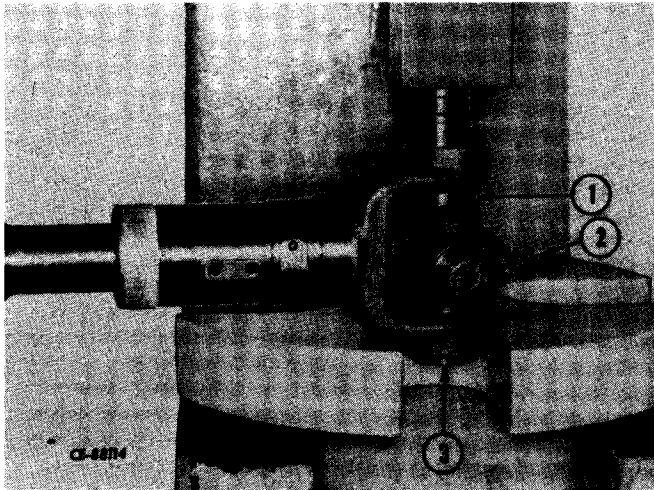

Figure 5-9
Turn drive shaft over and using a suitable driver, press down on spider (1, Fig. 5-9) to remove lower bearing (2).